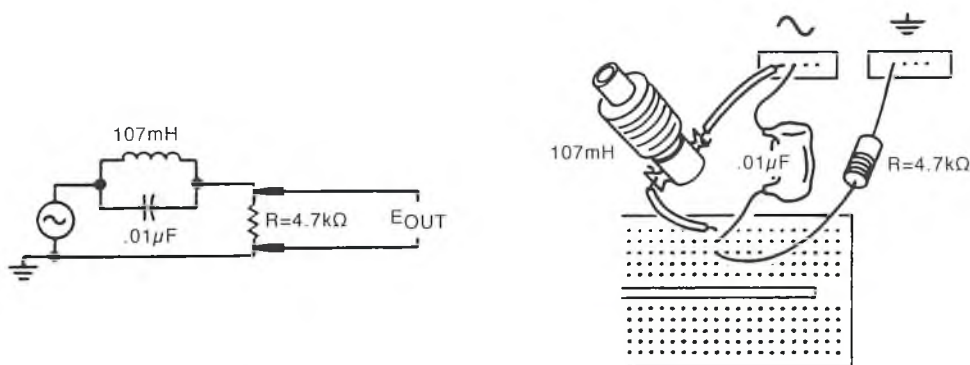
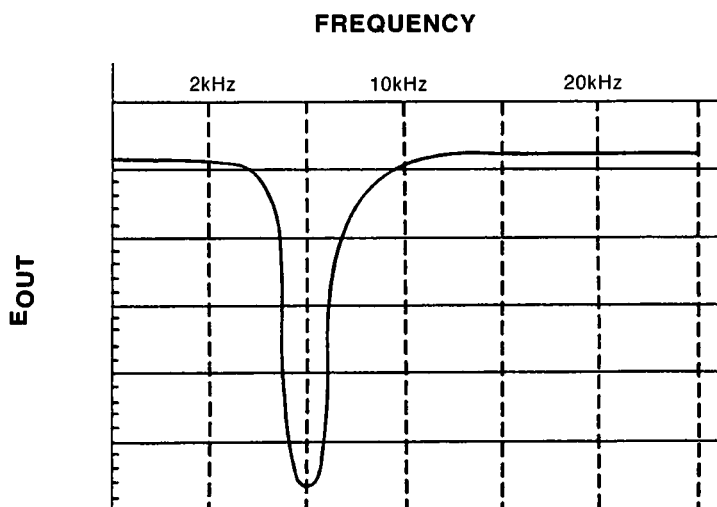

Figure 5-40
Figure 5-50
10. Disconnect the previous circuit and construct the circuit shown in Figure 5-40.
Plot the response curve for the circuit shown in Figure 5-40.
In step 10 you assembled the circuit shown in Figure 5-40. Next, you plotted a response curve for the circuit. A typical curve is shown in Figure 5-50. The general shape of your curve should agree with this curve. The circuit arrangement and the response curve tell us that this is a band-stop filter.
shown in Figure 5-40.